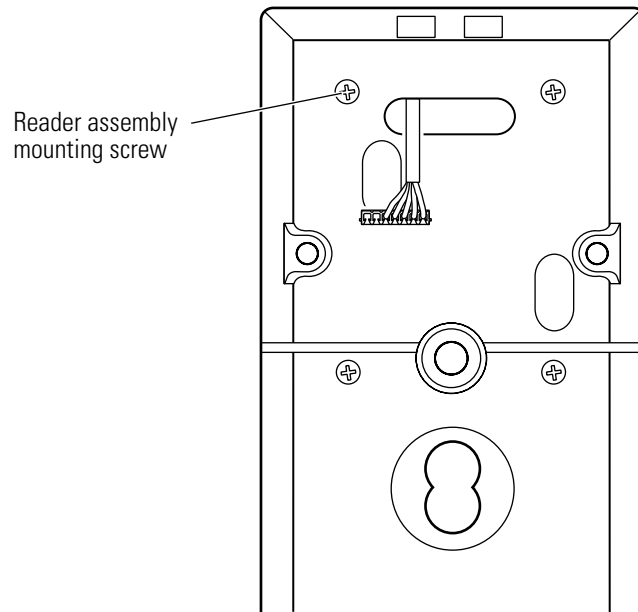

Figure 9.14 Removing and reinstalling the screws for the magnetic stripe reader assembly
2. Remove and save the four reader assembly mounting screws. See Figure 9.14.
2. Position the reader assembly on the reader gasket and install the four reader assembly mounting screws. See Figure 9.14.